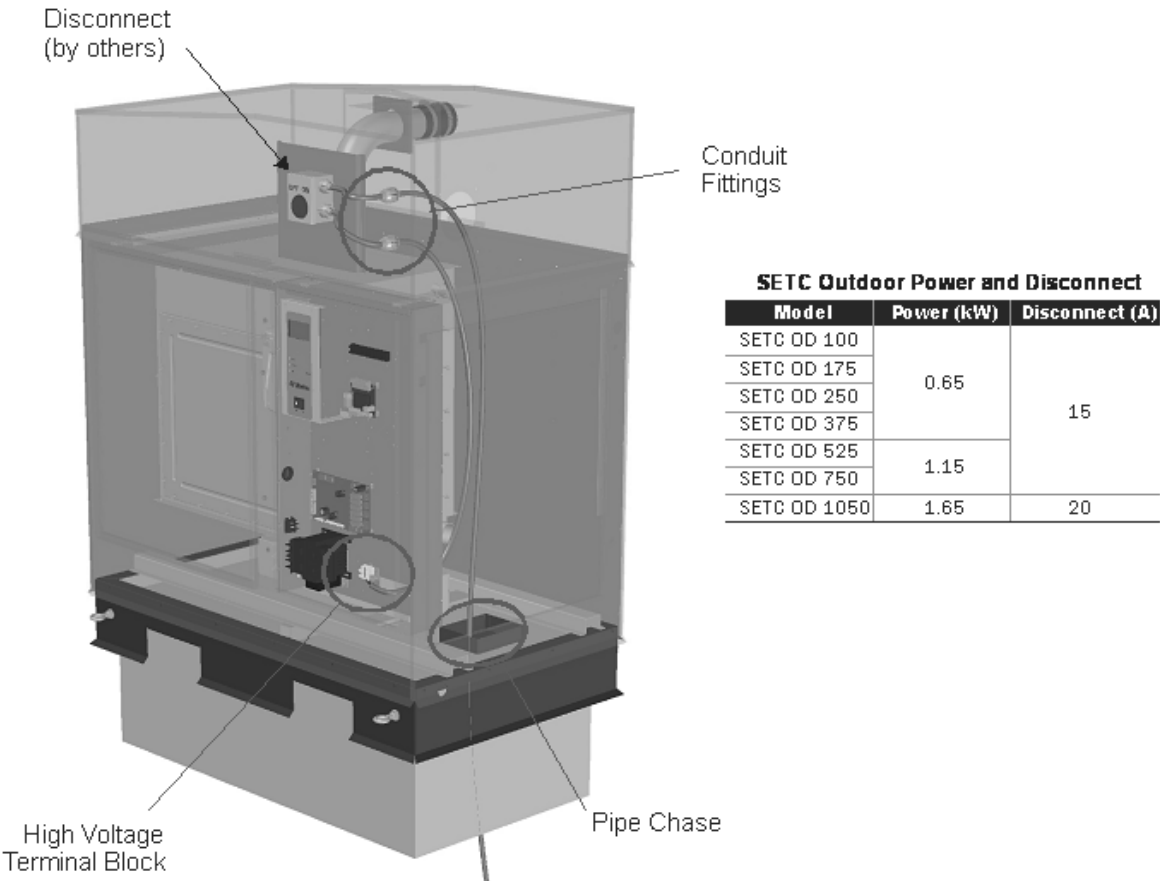

**Figure 10: SETC Outdoor Steam Outlet**
- The Steam outlet(s) of the SETC Outdoor is from the back of the humidifier and does not require 12 in. (30 cm) of vertical steam run immediately after the humidifier. The steam line may be routed directly down or horizontally from the outlet. See Figure 10: SETC Outdoor Steam Outlet.